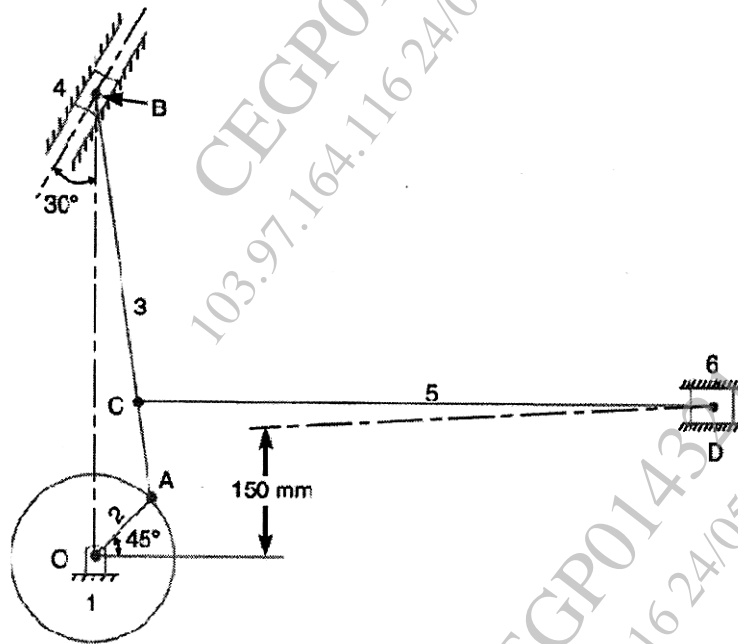

Fig. 1
5. (a) The crank OA of a mechanism, as shown in Fig. 1, rotates clockwise at 120 rpm. The length of various links are : OA = 100 mm; AB = 500 mm; AC = 100 mm and CD = 750 mm. Line of action for slider D is horizontal. Find, by instantaneous centre method : 1. Velocity of point C; 2. Velocity of slider D; and 3. Angular velocities of the links AB and CD. [12]